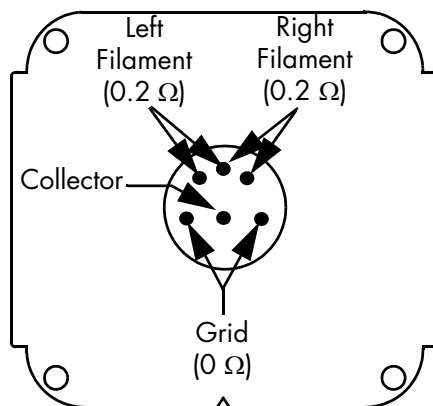

Figure 7-5: 354 Micro-Ion Gauge Pin Identification
- Using a digital multimeter, measure the resistance of the left filament and the right filament between filament pins as shown in Figure 7-5. The reading should be approximately  $0.2 \Omega$ .
- Measure the resistance of filament pins to any other pin or gauge case as shown in Figure 7-5. The reading should be infinity.
- Measure the resistance between Grid pins as shown in Figure 7-5. The reading should be approximately  $0 \Omega$ .
- Measure the resistance of Grid pins to any other pin or gauge case as shown in Figure 7-5. The reading should be infinity.
- Measure the resistance of Collector pin to any other pin or gauge case as shown in Figure 7-5. The reading should be infinity.